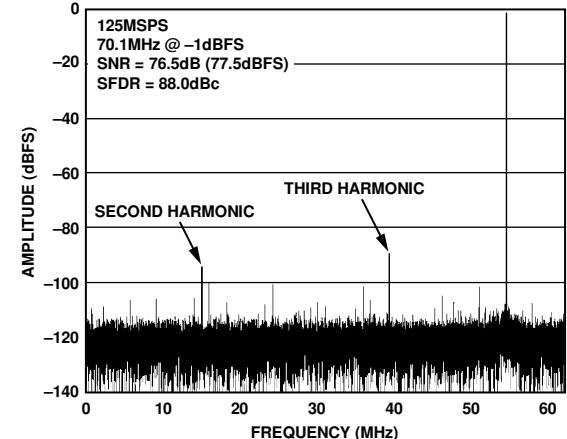

Figure 14. Typical FFT, AD9265/AD9255
2. Click the disk icon within the **Graph** window to save the performance plot data as a .csv formatted file. See Figure 14 for an example.